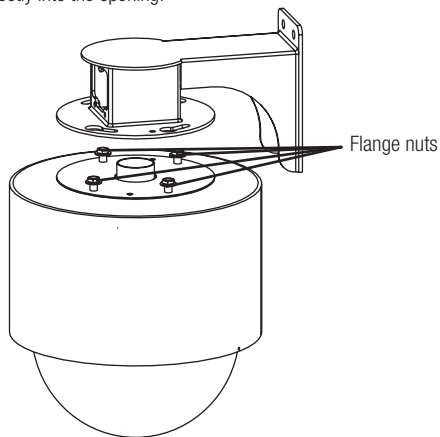

Figure 11
1. Make sure that the (4) flange nuts on top of the DeputyDome™ are loosened and that the tamper-resistant screws are not attached. Lift the unit up to the wall mount and align the flange nuts with the keyhole slots on the mount (Figure 11). Turn counterclockwise so that the nuts are inside the slots. Make sure that the holes for the tamper-resistant screws line up. Tighten the flange nuts.